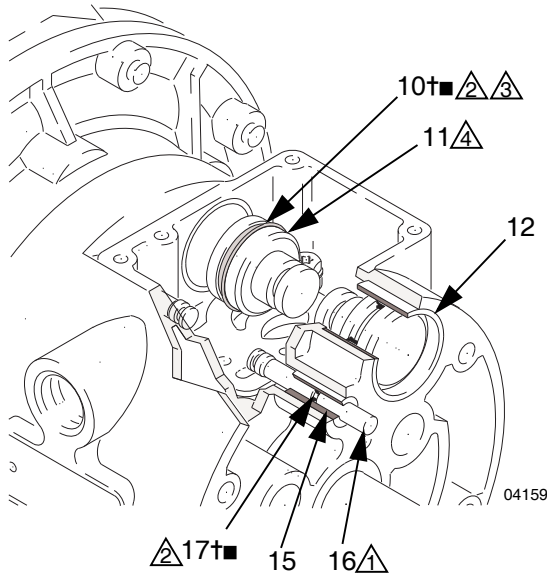

Fig. 9
4. Pull the two actuator pistons (11) out of the bearings (12). Remove the u-cup packings (10) from the pistons. Pull the pilot pins (16) out of the bearings (15). Remove the o-rings (17) from the push pins. See Fig. 9.
6. Inspect the bearings (12, 15) in place. See Fig. 9. The bearings are tapered and, if damaged, must be removed from the outside. This requires disassembly of the fluid section. See page 23.
4. Install an o-ring (17†■) on each pilot pin (16). Grease the pins and o-rings. Insert the pins into the bearings (15), **narrow** end first. See Fig. 9.
5. Install a u-cup packing (10†■) on each actuator piston (11), so the lips of the packings face the **narrow** end of the pistons. See Fig. 9.
6. Lubricate the u-cup packings (10†■) and actuator pistons (11). Insert the actuator pistons in the bearings (12), **wide** end first. Leave the narrow end of the pistons exposed. See Fig. 9.